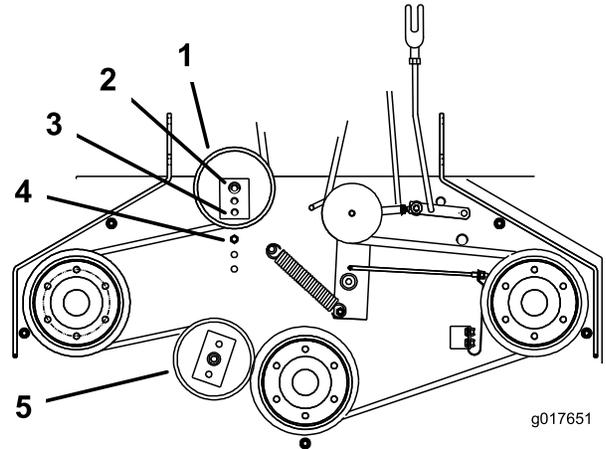

Figure 48
positioned to the middle or front hole (Figure 48). Use the hole that will give the correct adjustment.
- 7. When the idler pulley is moved the belt guide must be moved. Move the belt guide to the front position (Figure 48).